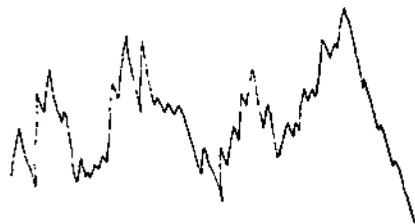

Figure 2-3. Waveshape of Complex Sounds
**INTELLIGENCE SIGNAL:** "Signal that conveys information." The intelligence signal can be a single tone (one frequency) or a complex waveform like the one shown in figure 2-3, that contain many frequencies.